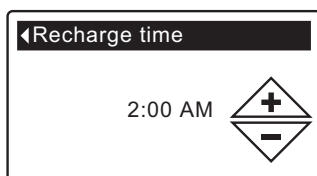

FIG. 45
5. Press the SELECT (O) button to display the Recharge time screen (See Figure 45).